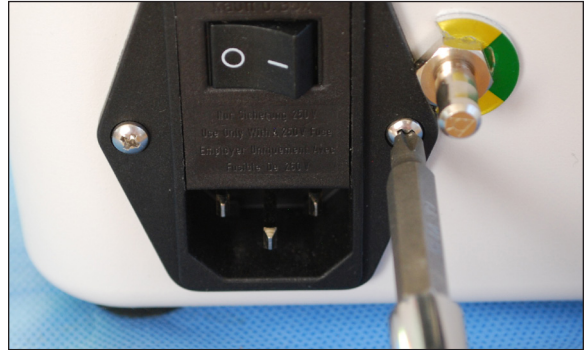

Figure 99 - Step 7 Remove retaining screws
7. Remove the two retaining screws and small Keps nuts that mount the power inlet to the bottom enclosure (Figure 99). Do not discard the screws and nuts.